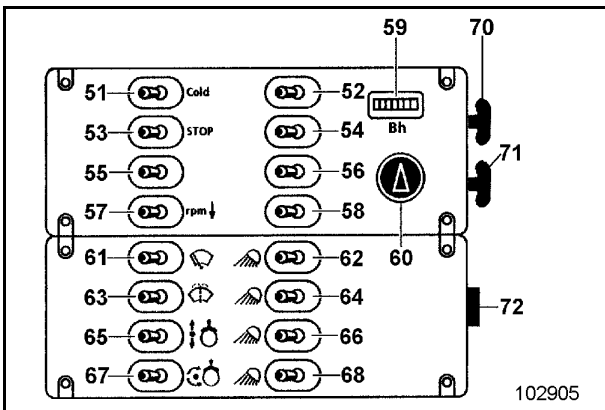

Fig. 2-58:
- Set toggle switch to the left (57, Fig. 2-58:)